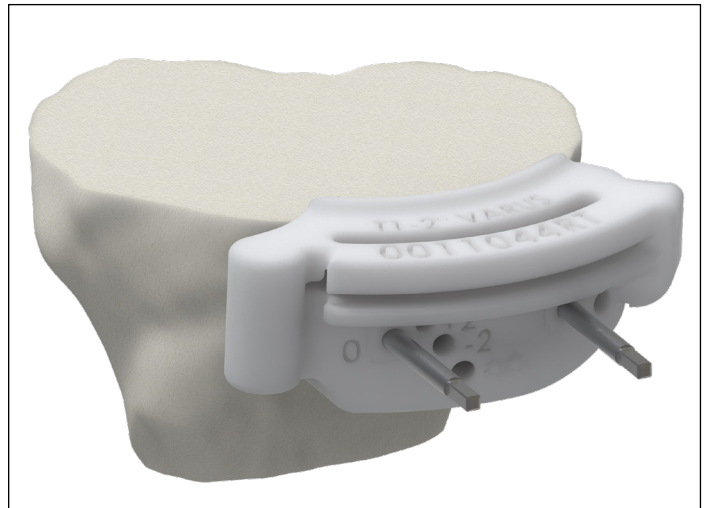

Figure 18. T1VR guide placed over pins at “0” holes
2. If the knee is tight medially in both flexion and extension, use the 2 degree T1VR Varus Adjustment Guide (**Figure 18**). Locate the pin-holes created from the T1 guide and place pins into the same holes. Slide the T1VR guide onto the pins at both “0” pin-hole positions. This tibial varus cut may create varus limb alignment in extension and flexion. Additional 2mm resection depth on plane with the 2 degree varus angle is available by placing T1VR onto pins at both “+2” pin-hole positions.